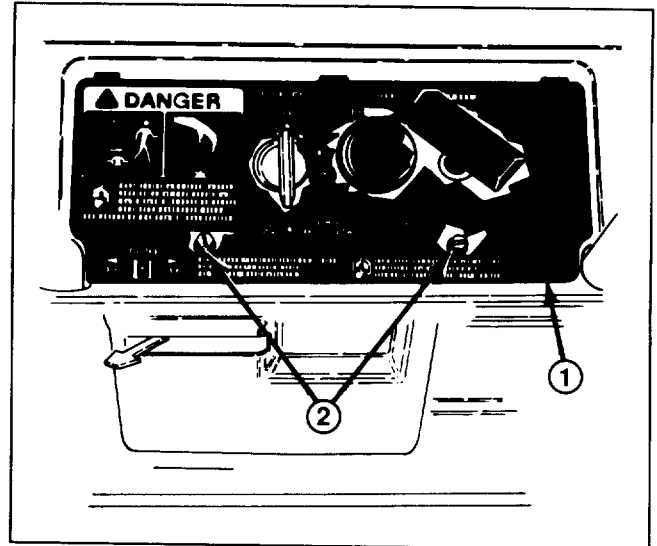

Figure 14
## REPLACING SPARK PLUG (Figs. 14–16)
1. **REMOVE CONTROL PANEL** (Fig. 14) – Remove (2) screws securing control panel to housing. Remove ignition key and lift off panel, allowing it to hang on recoil rope.